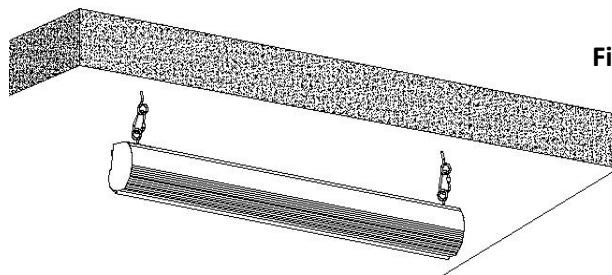

Fig. 3
7. **Figure 3** will show you an optional installation using chains (not included)
3. Wall box controller (Item C, Fig.3): The wall box controller switch is a wall mounted control box with an up/stop/down button. It plugs directly into the screen’s RJ50 port.